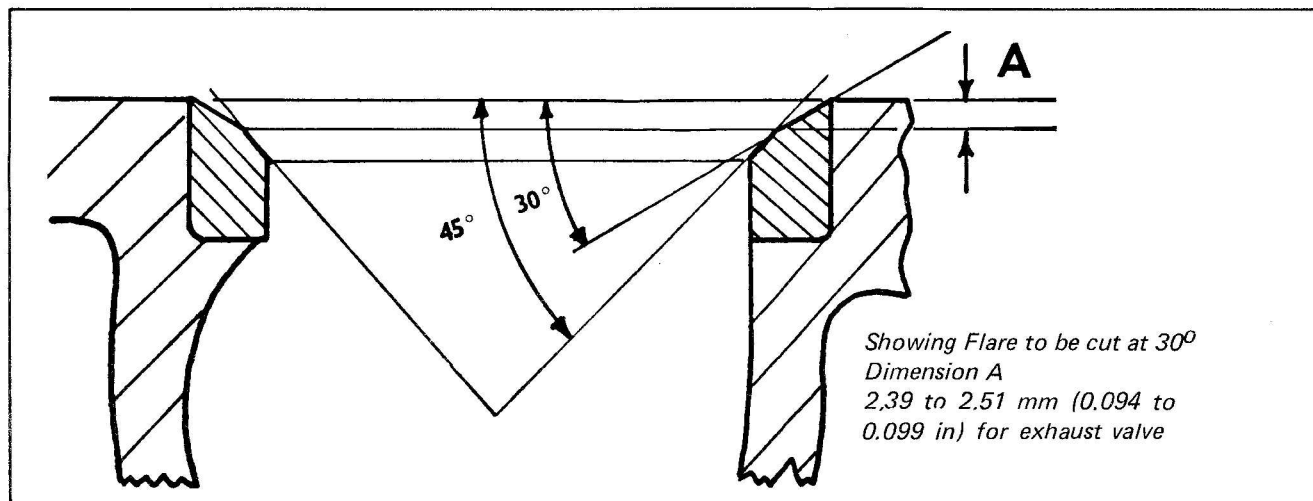

Fig. 10
4. Using the valve bore as a pilot, machine the "flare" to the dimensions in Fig. 10.
- a) Machine to the dimensions given in Fig. 10 and continue as in stages 5 and 6.